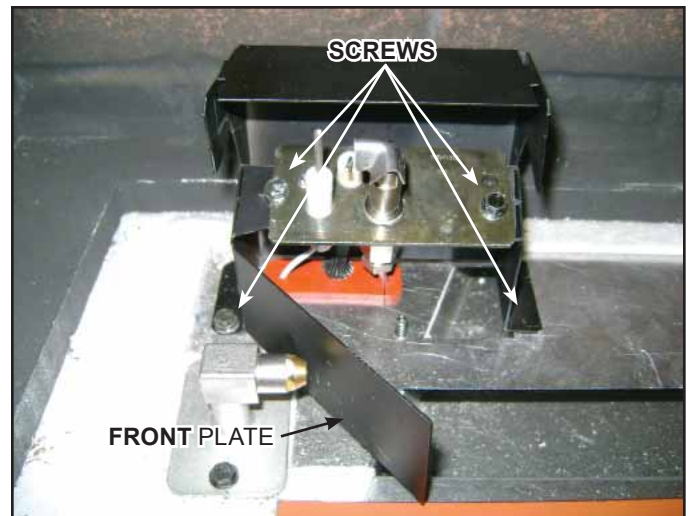

Figure 6. Pilot Burner Service
11. Detach the pilot from the pilot bracket by removing two screws. See Figure 6.
12. Bend open front of pilot bracket. Remove the pilot bracket from the appliance by removing a screw from the left and the right sides of the bracket. See Figure 6.
20. Attach pilot to pilot bracket with two screws. See Figure 6.